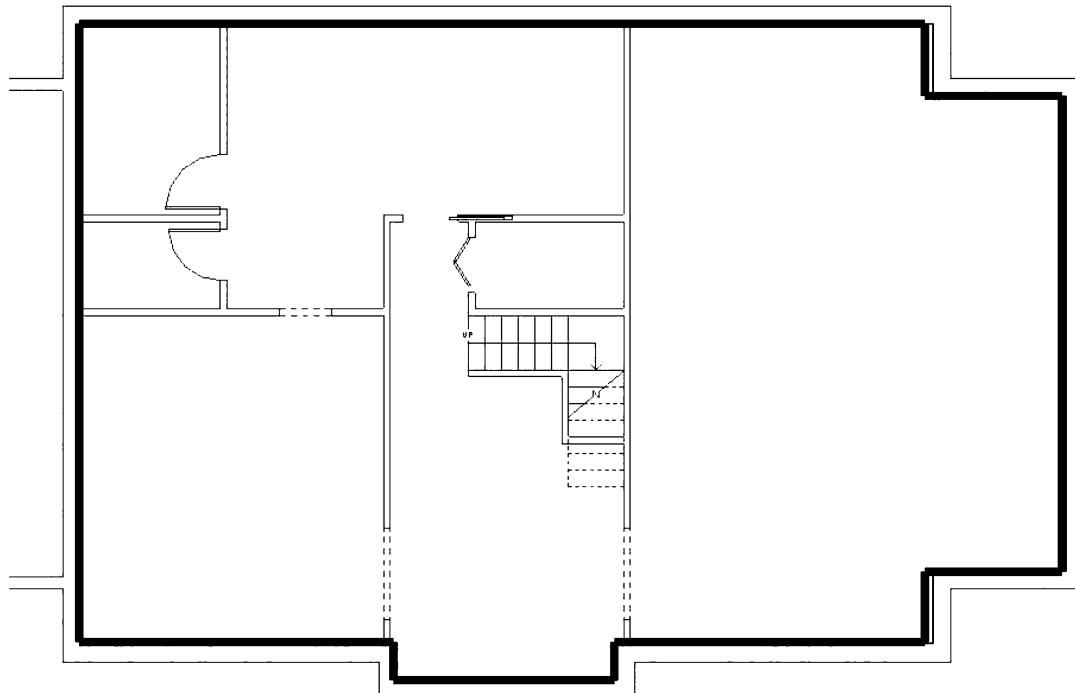

FIGURE 14-1.13 Basement floor plan – walls selected to define the building pad
25. With **Pick Walls** selected on the Ribbon, select each of the foundation walls in the basement area (Figure 14-1.13).